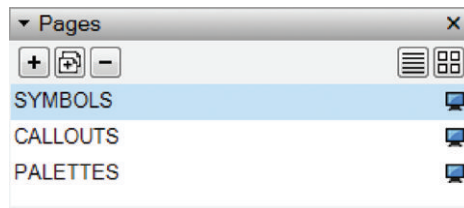

Figure 13.9 Typical scrapbook presentation pages
3. In the Pages Inspector, double-click on the only page and rename it **SYMBOLS**. Click on the plus sign (+) to add two more pages. Name the pages **CALLOUTS** and **PALETTES** (Figure 13.9).